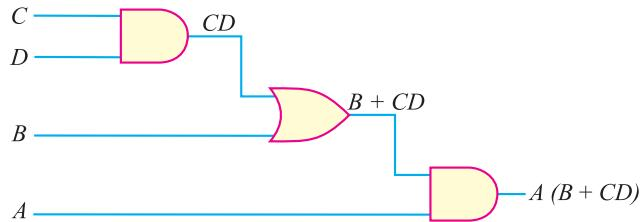

Fig. 26.34
**(ii)** Fig. 26.34 shows a logic circuit consisting of two AND gates and one OR gate. There are four ( $A, B, C$  and  $D$ ) input variables.